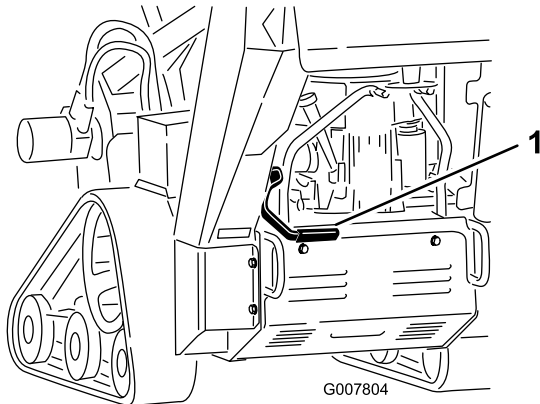

Figure 15
- To set the parking brake, pull the brake lever rearward and up (Figure 15).
- To release the brake, pull the lever rearward and then down (Figure 15).